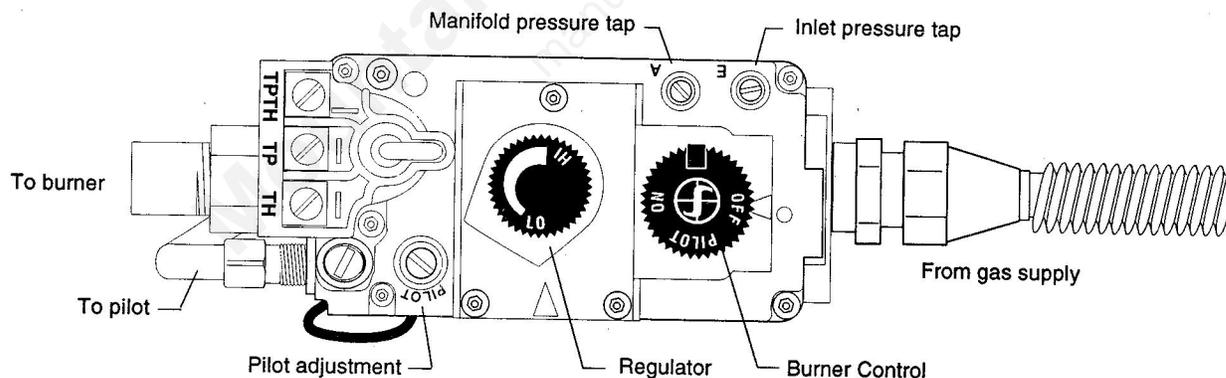

Figure 17. The S.I.T. Control Valve, (front panel removed).
1. Connect the gas supply line to the inlet at the right side of the control valve as required by local codes. This may be a flexible line, (not supplied), or hard plumbing, Fig. 17.